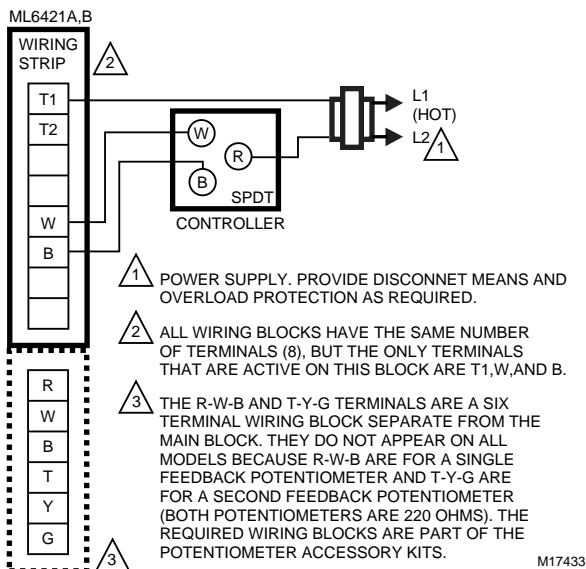

Fig. 5. ML6421 typical wiring diagram.
**NOTE:** See Fig. 5 through 8 for typical wiring hookups.
2. Using the appropriate wiring diagram (see Fig. 5 through 8), connect power and control wires to the actuator. Make sure that all wiring is correct.